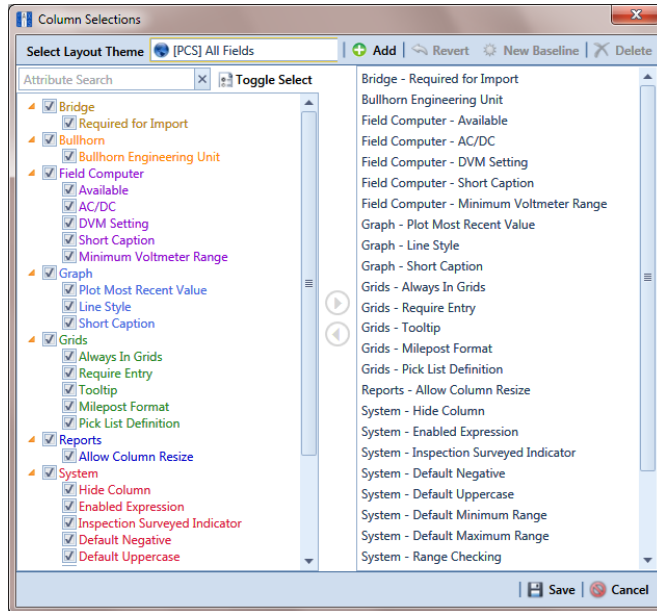

Figure 3-28. Column Selections
- 2 Click  **Customize** to open the *Column Selections* dialog box (Figure 3-28).
- 4 To remove one or more fields in the layout theme, complete one of the following steps (Figure 3-28, page 70):